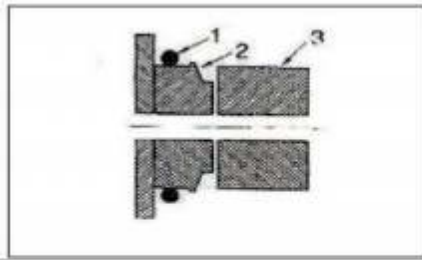

Fig 4.46
3. Remove the old O-ring and install the new O-ring 1 (Figure 4-46) on the bushing 2. Make sure that the O-ring groove on the connecting rod 3 and the bucket bushing have been cleaned.